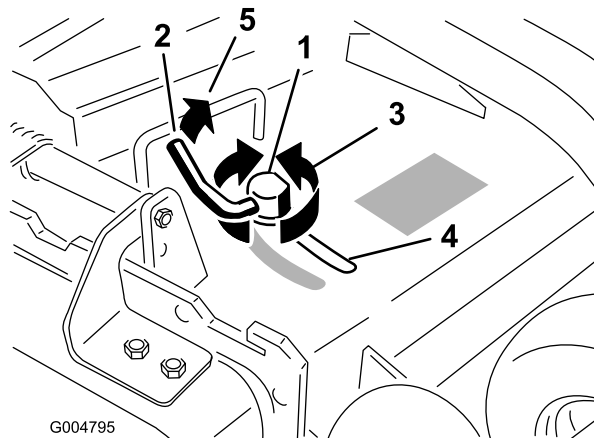

Figure 18
3. To adjust the cam lock, swing the lever up to loosen the cam lock (Figure 18).
5. Swing the lever back over to tighten the baffle and cam lock (Figure 18).